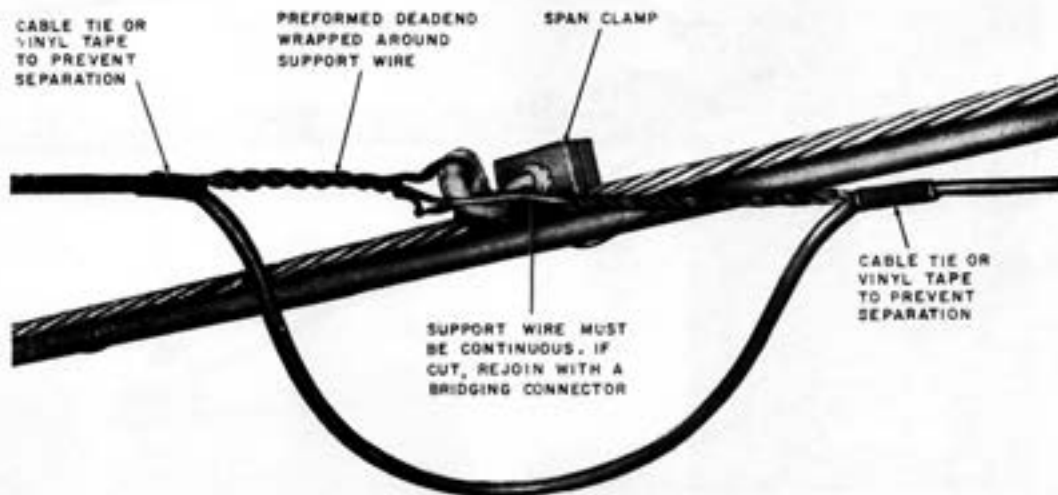

Fig. 12—Turn In Multiple Drop Wire Run at Midspan
4.06 When it is necessary to make a turn in the multiple drop wire run at midspan, attach the drop wire as shown in Fig. 12.